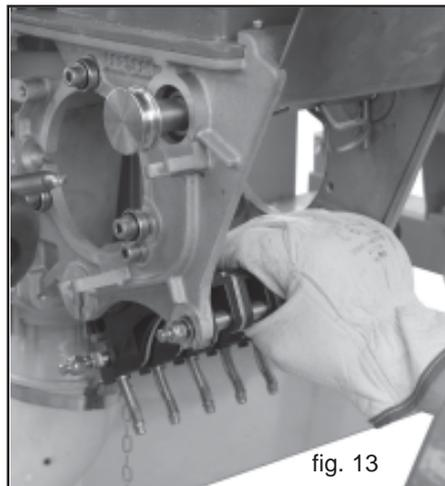

fig. 13
- 3) Remove the back part (Fig. 13) of the feeler pin unit, first, followed by the front part.